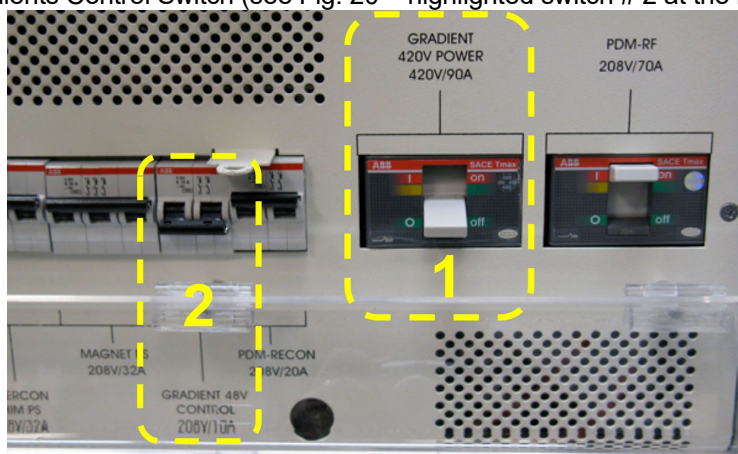

Figure 20. Turn the circuit breakers off in the following order:
- 3) **Turn OFF** Gradients Power Switch (see Fig. 20 – highlighted switch # 1 at the right)
- 4) **Turn OFF** Gradients Control Switch (see Fig. 20 – highlighted switch # 2 at the left)